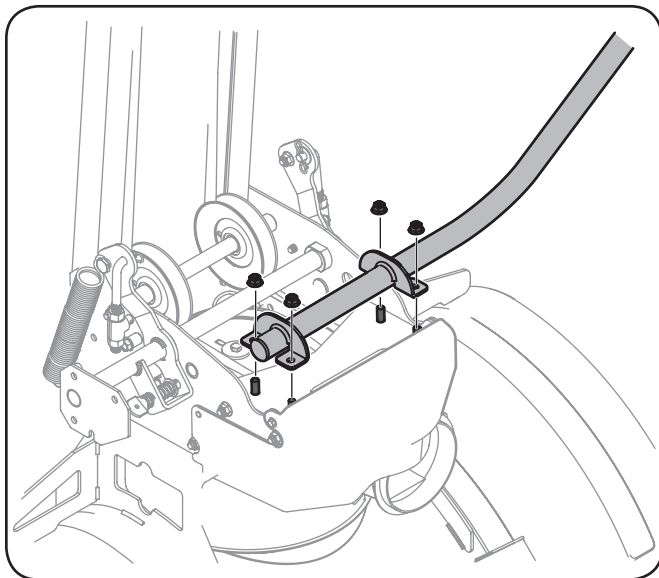

Figure 3-15
1. Using a  $\frac{1}{16}$ " wrench, secure the chute crank assembly to the auger housing assembly with four flange lock nuts. See Figure 3-15.